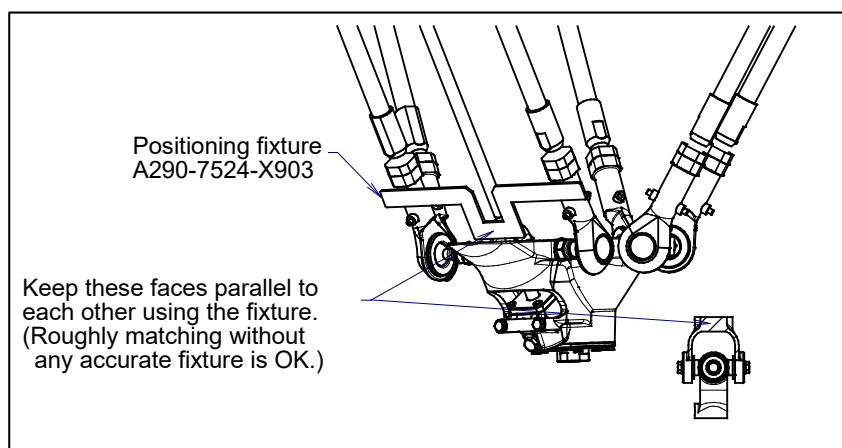

Fig. 7.3 (a) Universal joint phase calibration
- 11 Calibrate universal joint phase. Jog J4-axis to the position for universal joint phase calibration. (See Fig. 7.3 (a))